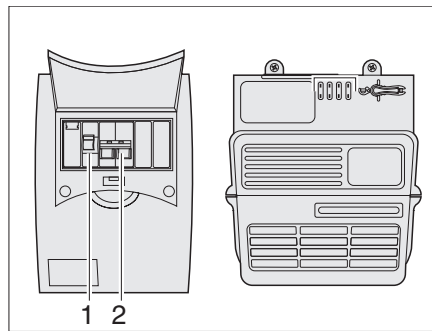

Fig. 97 230-V fuse box
The main fuse (Fig. 97,2) protects the 240 V input current with a max. of 10 A. In addition, a residual-current circuit-breaker (Fig. 97,1) is located in the fuse box.
- Switch the 240 V safety cut-out (see Fig. 97) and the main switch battery (see Fig. 91,9) on and off briefly in order to interrupt the current flow.